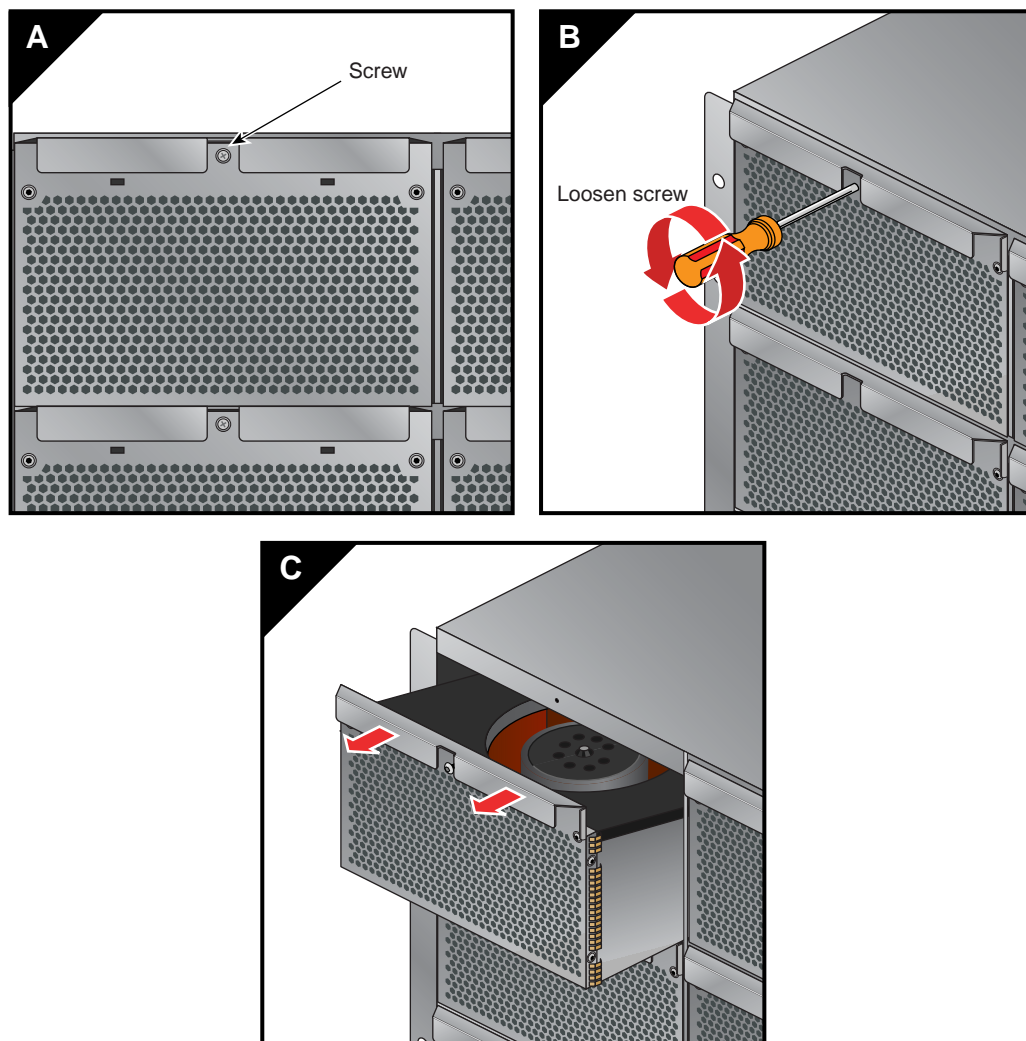

Figure 6-6 Removing a Fan From the IRU
1. Undo the (captive) screw (located in the middle of the blower assembly handle). The handle has a notch for the screw access, see Figure 6-6.